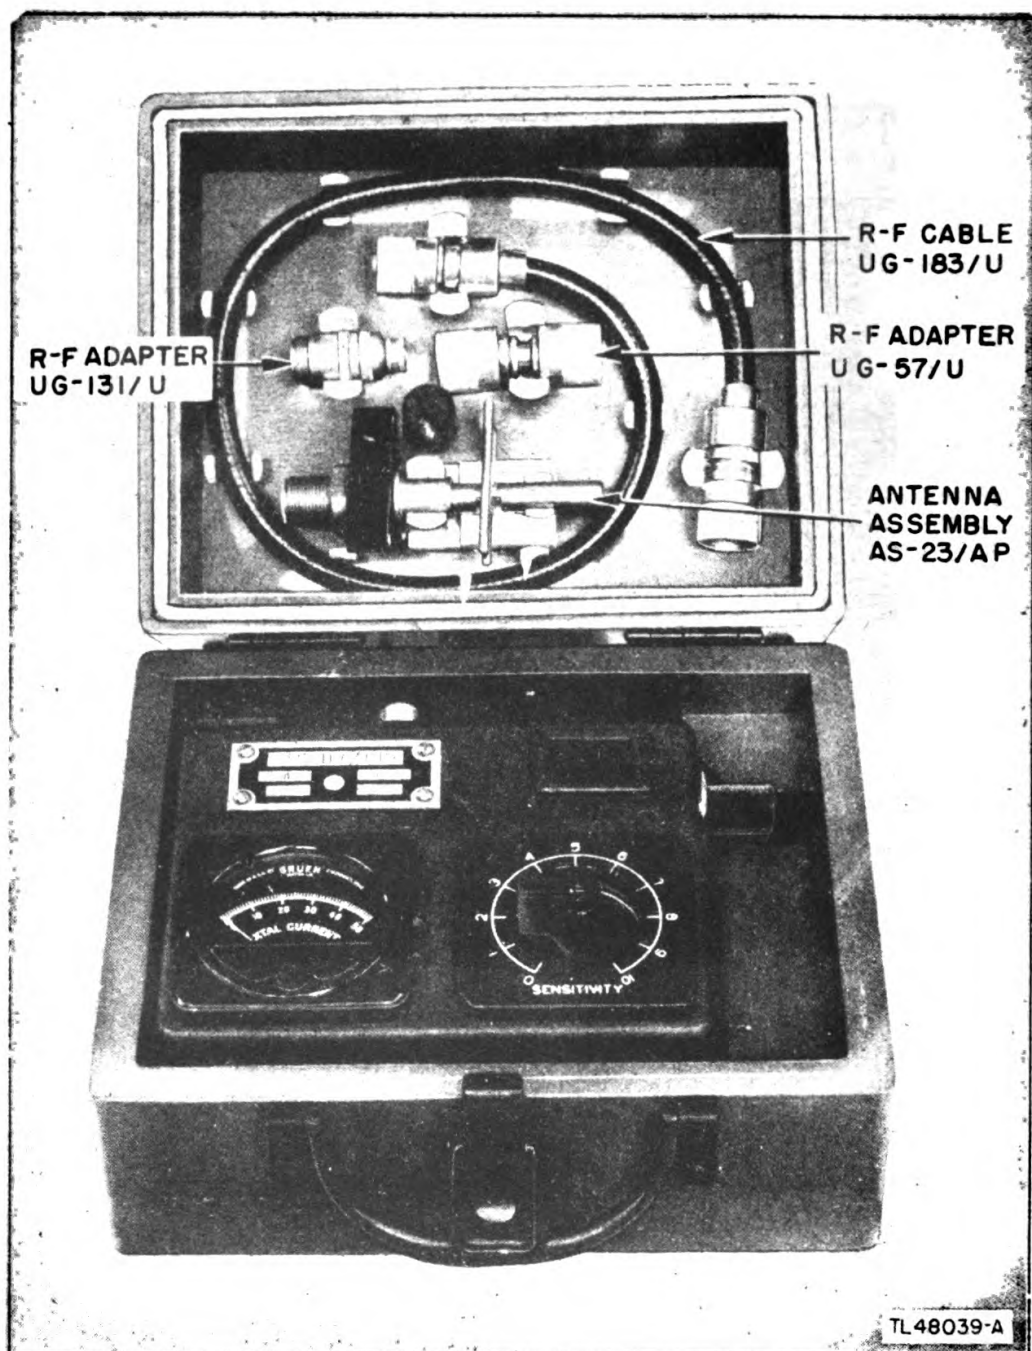

Figure 7. Wavemeter Test Set TS-117/GP.
10. WAVEMETER TEST SET TS-117/GP (fig. 7).